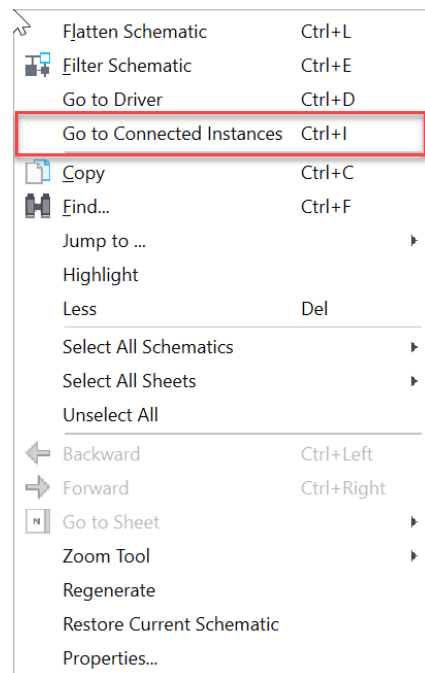

Figure 3.21. Go to Connected Instances Option
- Choosing **Go to Connected Instances** option, shown in Figure 3.21, highlights all the connected instances of the selected net. This aids in understanding the broader context of the net within the overall design and its interactions with other components.